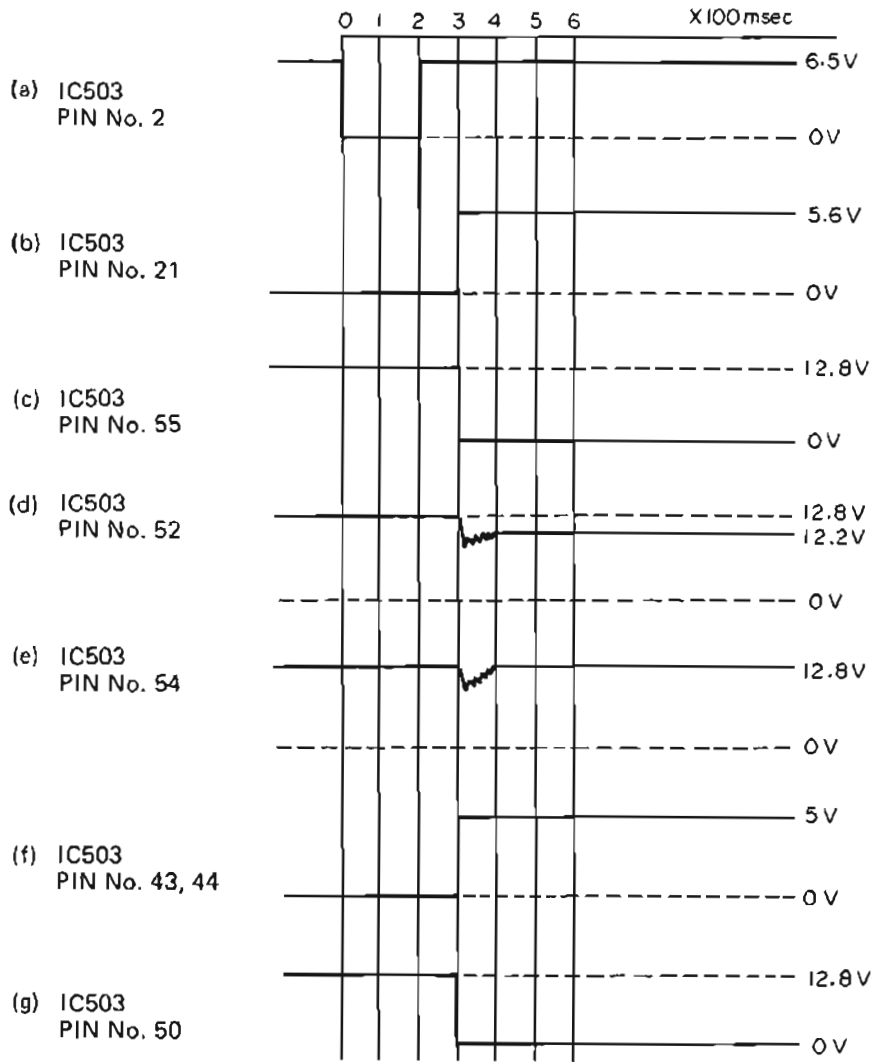

Fig. 13
**4. REW-mode operation (See Fig. 13.)**